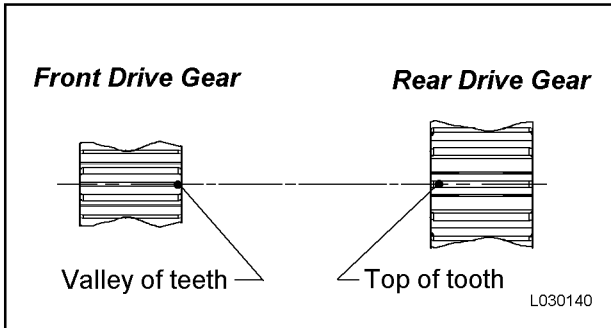

FIGURE 3-16. PUMP GEAR TIMING
NOTE: To ensure that the gear pump is correctly timed during reassembly, place a mark on the end of the input shaft to indicate the location of the valley between any two gear teeth. Refer to Figure 3-16 which illustrates gear timing.
20. Install rear drive gear (1) and idler gear (13). The rear drive gear must be timed with the front drive gear. This is accomplished by lining up a tooth on the rear drive gear with the valley of two teeth on the front drive gear as shown in Figure 3-16.